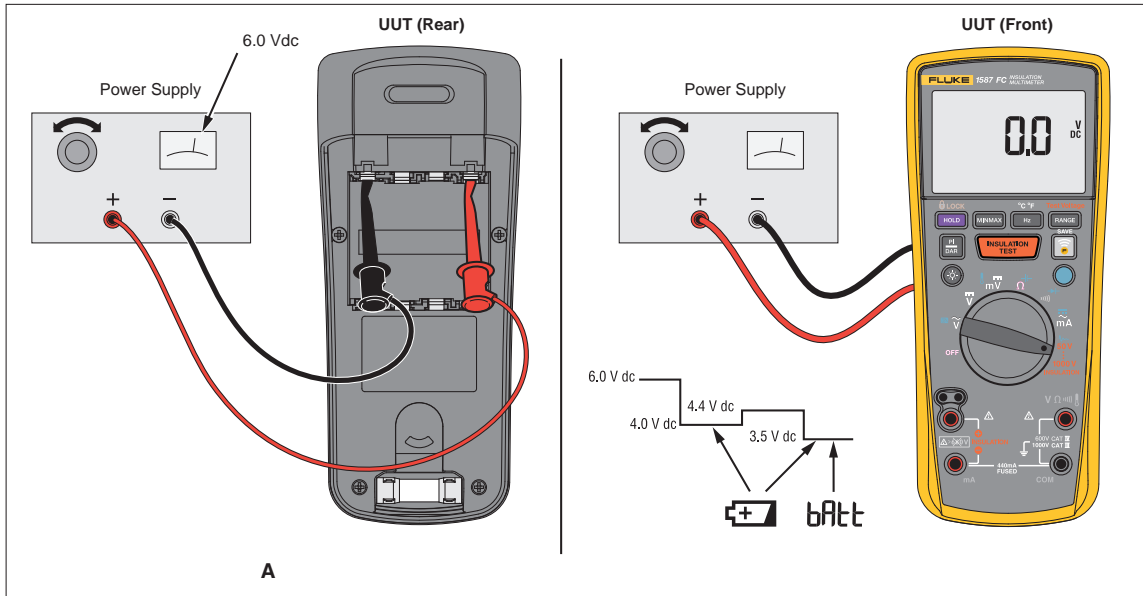

Figure 9. Low-Battery Test Connections
2. Connect a 6-volt adjustable Power Supply between the positive and negative battery terminals of the UUT as shown in Figure 9.
- Connect a 6-volt adjustable Power Supply between the positive and negative battery terminals of the UUT as shown in Figure 9-A.